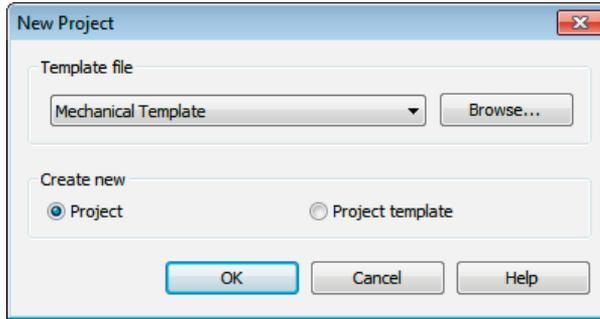

Figure 2-27 The *New Project* dialog box
- b. Use **Systems-Default** (Imperial) or **Systems-Default_Metric** (Metric) as the template file for the project, refer to Figure 2-27.
1. Click on the **Application** button; the **Application Menu** is displayed. Choose **New > Project** from this menu; the **New Project** dialog box is displayed, as shown in Figure 2-27.